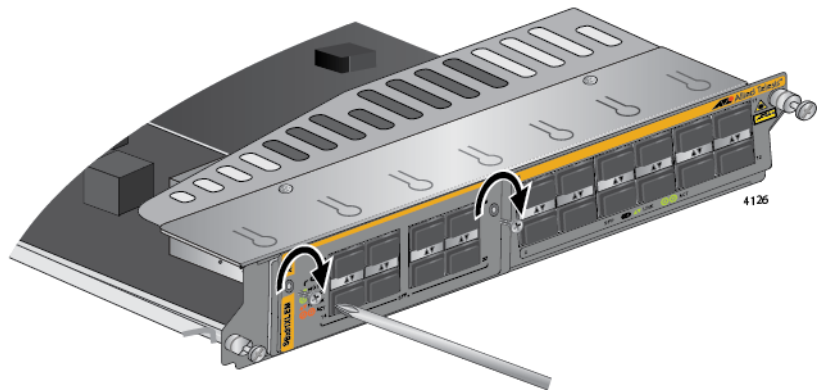

Figure 83. Securing the Expansion Module
10. With a Phillips-head screwdriver, install the two screws from step 4 to secure the expansion module to the line card. Refer to Figure 83.